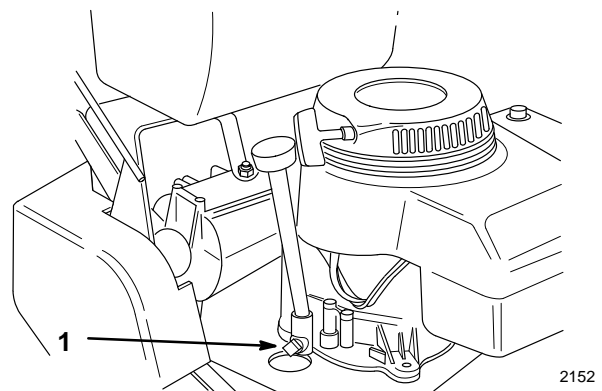

Figure 21
3. Place a pan below the oil drain. Remove the oil drain plug (Fig. 21).